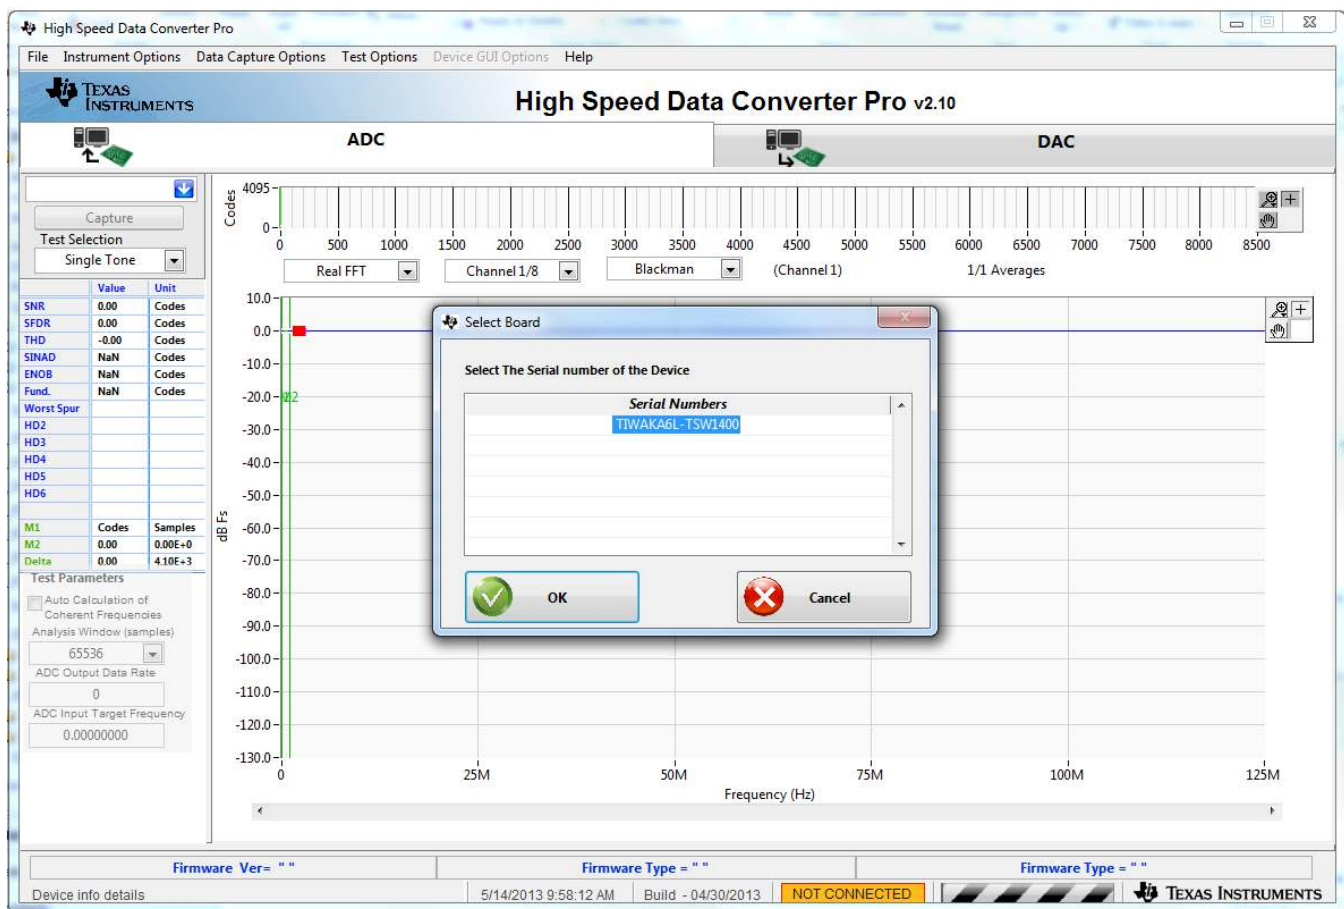

Figure 22. TSW1400 GUI Setup (a)
1. With the setup outlined in Figure 18 established, launch the *High Speed Data Converter Pro* GUI. The GUI should automatically detect the serial number of the TSW1400 EVM, connected as shown in Figure 22. Click on OK.